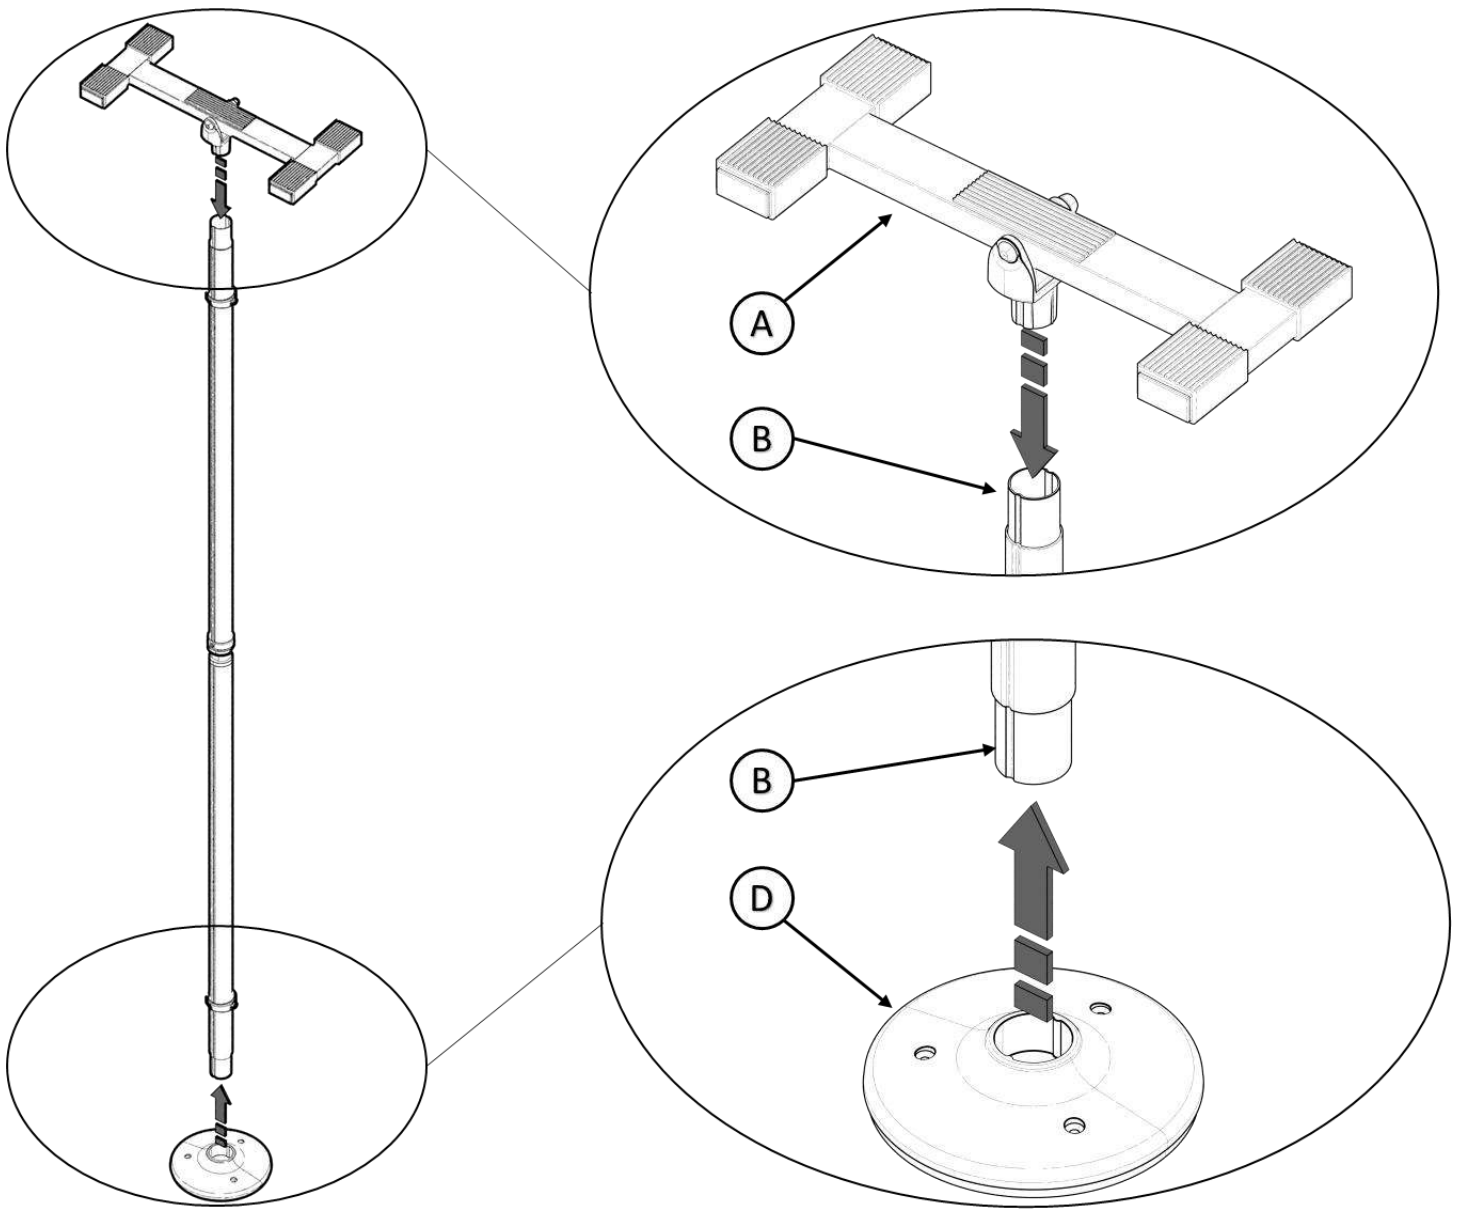

FIGURE 5
5. Place **D** on the floor at target location and insert **A** into **B** and **B** into **D** as shown in *FIGURE 5*.